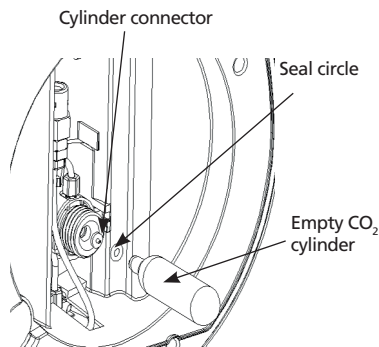

Figure 32
2. Take a new gas cylinder connector into the pressure reducing valve (the gas cylinder connector must be with the pointed end outward, if only changing the connector seal, it will be directly installed into the connector seal), and then install the connector seal, and at the same time, use the empty gas cylinder to press the connector seal tightly (Figure 32), please don't dismantle the other parts of the pressure reducing valve in the process of replacing it.